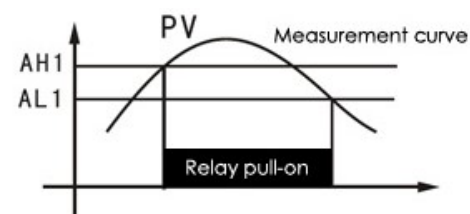

Figure 1
(1) Setting AH1=AL1 (AH2=AL2) , the relay is invalid.
(2) Setting AH1>AL1 (AH2>AL2) , if the measurement value is $\geq$ AH1, the relay pulls on; when the measurement value is $\leq$ AL1, the relay releases. See figure 1 for action of the relay and often used for upper limit alarm.